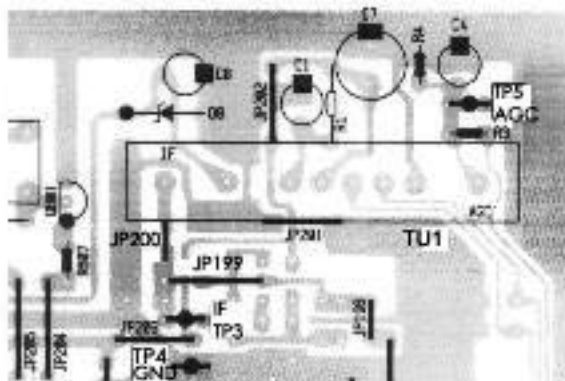

FIG. 1
2. Connect wire (+) of DC Digital Voltmeter to TP6 and wire (-) to TP4. (Figure 1)